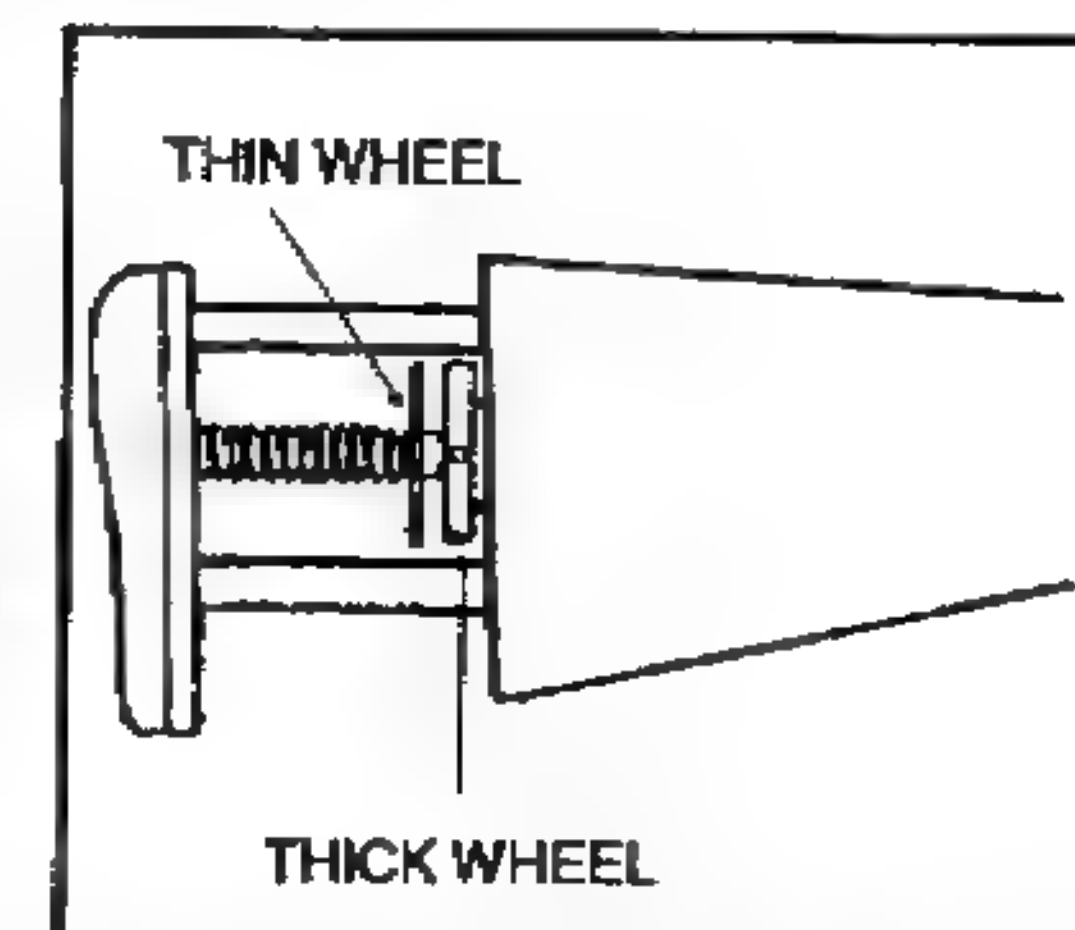

Figure 2-7. Stock adjustment.
d. **Stock Adjustment.** The M24's stock has an adjustable butt plate to accommodate the length of pull. The stock adjustment (Figure 2-7) consists of a thin wheel and a thick wheel. The thick wheel adjusts the shoulder stock. The thin wheel locks the shoulder stock.
(1) Turn the thick wheel clockwise to *lengthen* the stock.
(2) Turn the thick wheel counterclockwise to *shorten* the stock.